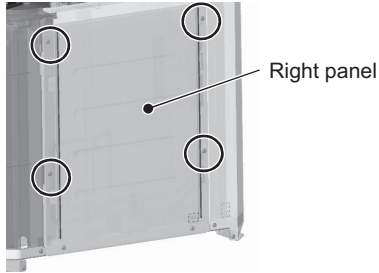

Figure 1
- (1) Remove the front heat exchanger. Refer to 8-12-7 Maintenance Procedures for the Heat Exchanger for details.
- (2) Remove the top, front, and right compressor covers. Refer to 8-12-4 Compressor Replacement Procedure for details.
- (3) Remove the duct from the control box. Refer to the control box replacement procedure for details.
- (4) Remove the right and inside (right) compressor panels by unscrewing the four screws. (Applicable only to the S-module. See Figures 1 and 2.)